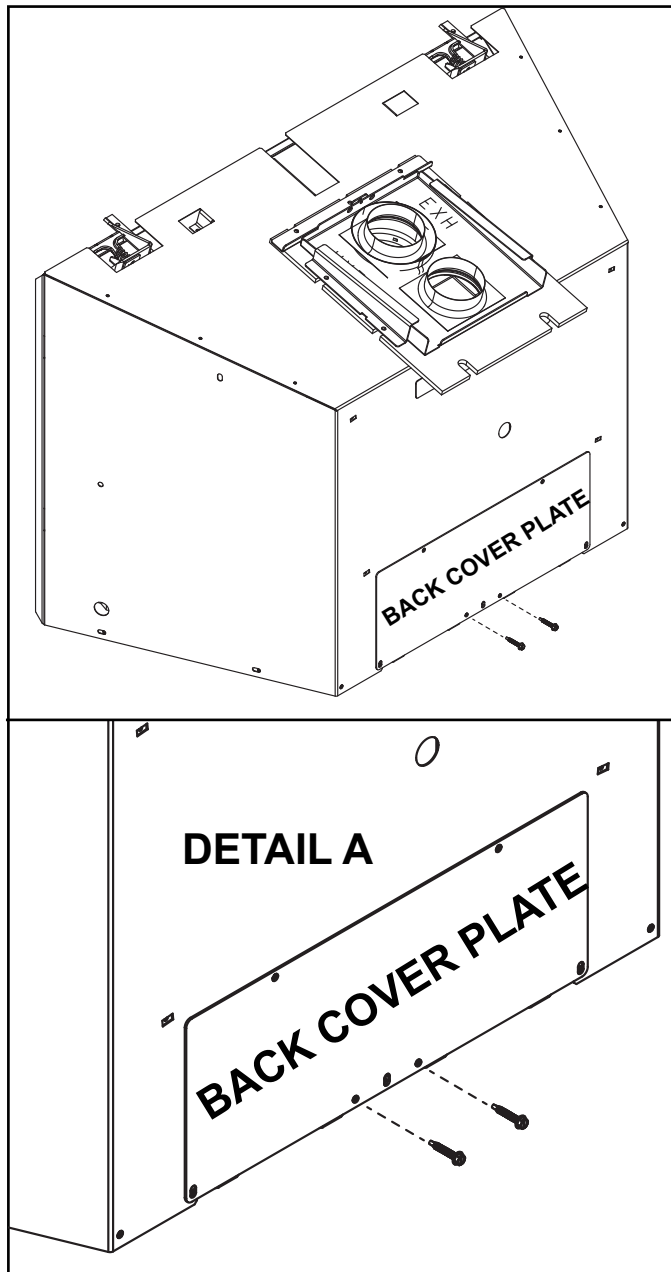

Figure 9.3 Remove Shipping Screws
1. Remove the two shipping screws from the back cover plate as illustrated in Figure 9.3, Detail A.